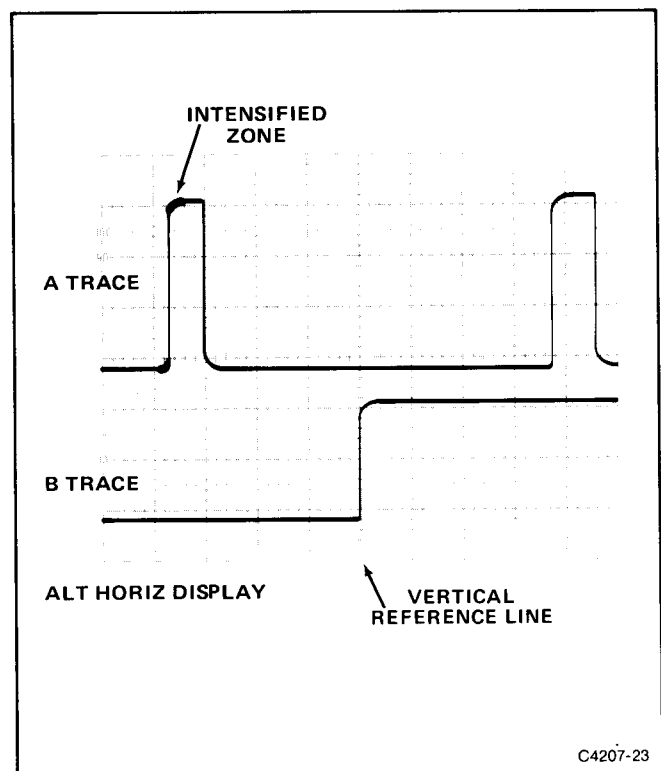

Figure 4-13. Time difference on single waveform.
5. Select ALT HORIZONTAL MODE and adjust both the appropriate vertical POSITION control and A/B SWP SEP control to display the A trace above the B trace (see Figure 4-13).
7. Adjust the B DELAY TIME POSITION control to move the intensified zone to the leading edge on the first point of interest (on the A trace); then fine adjust until the selected portion (on the B trace) is centered at any convenient vertical graticule line (see Figure 4-13).